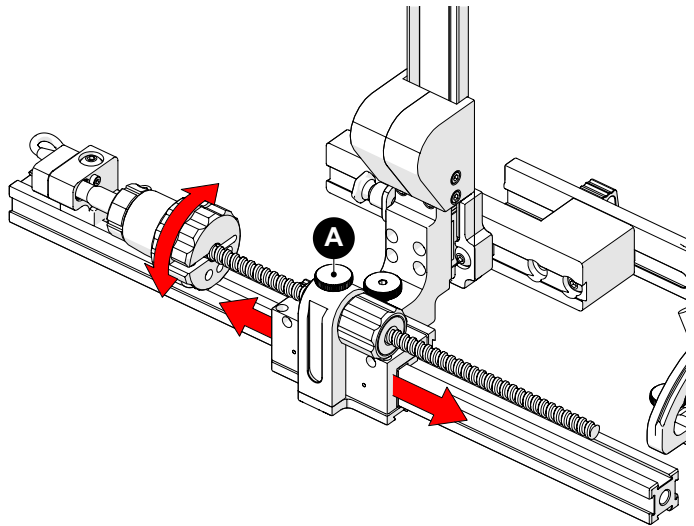

Fig. 201 - Slider positioning
5. Ensure the **A** slider lock knob is tight and rotate the main knob to position the slider (*Fig. 201*).